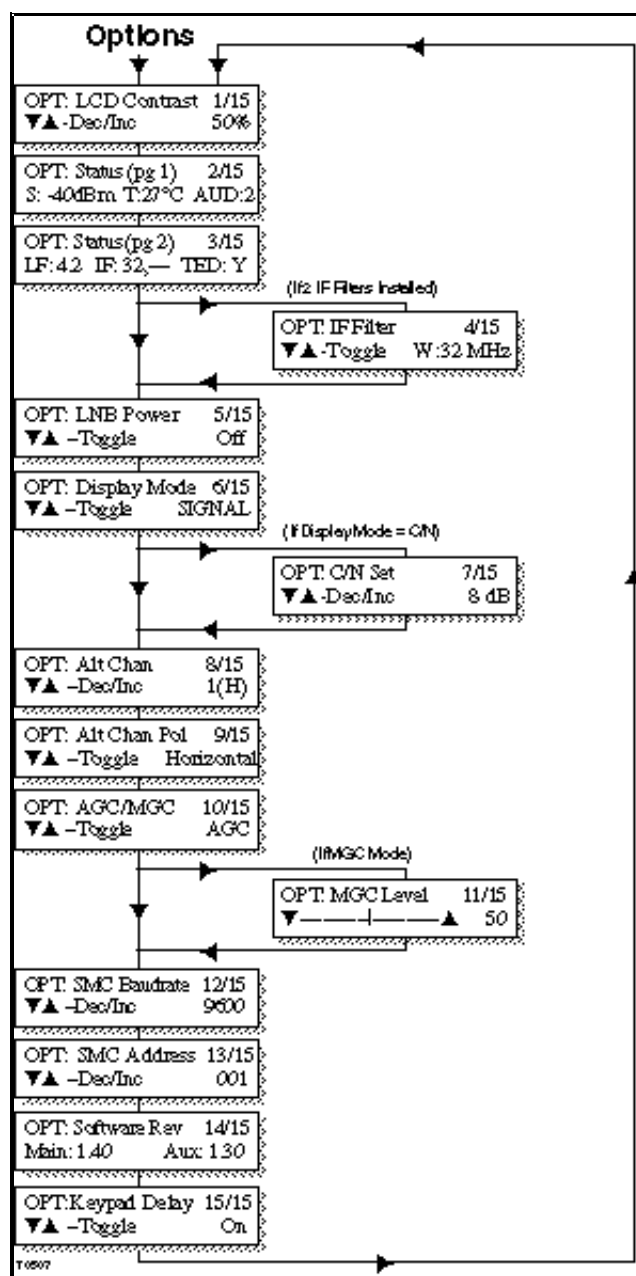

Figure 3-6. Options Submenus
The options submenus are selected by pressing the OPTIONS key. Once selected, the submenus are sequenced each time the OPTIONS key is pressed. The submenus are illustrated in figure 3-6 and described in table 3-9. Each submenu has a tag number located in the upper right corner that identifies the submenu sequence number.
1. Press the **OPTIONS** key to select LCD Contrast submenu (tag number 1/15 displayed in upper right corner, see figure 3-6).